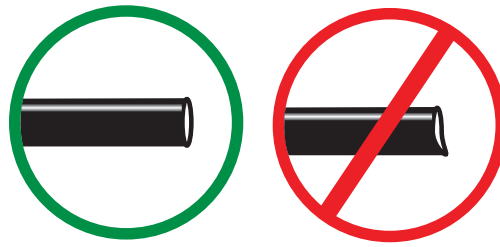

fig. 20
WHEN CUTTING OR TRIMMING THE AIR LINE, USE A HOSE CUTTER, A RAZOR BLADE, OR A SHARP KNIFE. A CLEAN, SQUARE CUT WILL ENSURE AGAINST LEAKS. DO NOT USE WIRE CUTTERS OR SCISSORS TO CUT THE AIR LINE. THESE TOOLS MAY FLATTEN OR CRIMP THE AIR LINE CAUSING IT TO LEAK AROUND THE O-RING SEAL INSIDE THE ELBOW FITTING (FIG. 20).
- a. Check the air line connection by deflating the spring and removing the line by pulling the collar against the fitting and pulling firmly on the air line. Trim 1" off the end of the air line. Be sure the cut is clean and square (see Fig. 20). Reinsert the air line into the push-to-connect fitting.